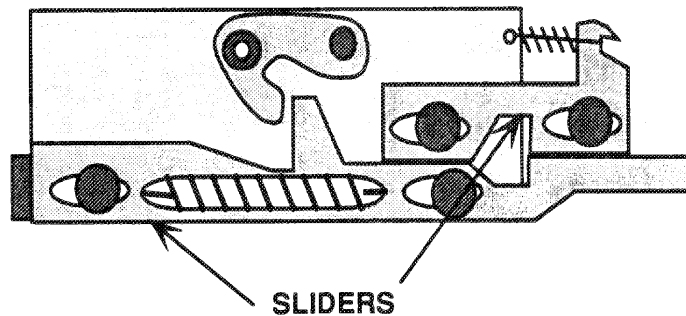

Figure 22 Work the sliders back and forth until all of the old grease is gone.
11. Work the levers back and forth as shown in Figure 22. Arrows are shown on the release points. Work these points back and forth and respray as necessary until all of the old grease is gone.